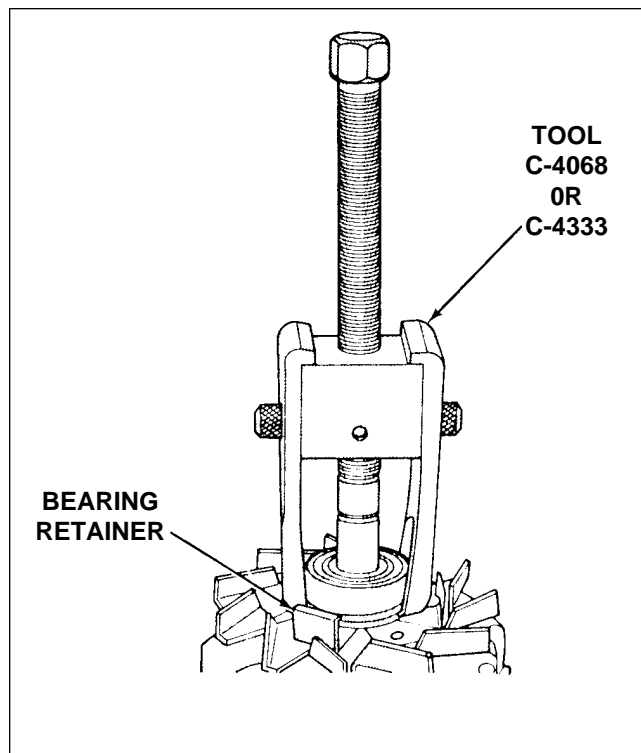

Figure 11-28. Removal of Bearing
- Remove drive end ball bearing with Puller Tool C-4068. (Refer to figure 11-28.)